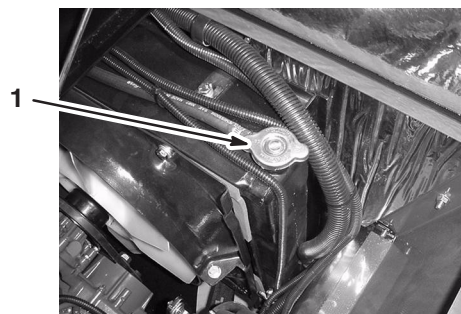
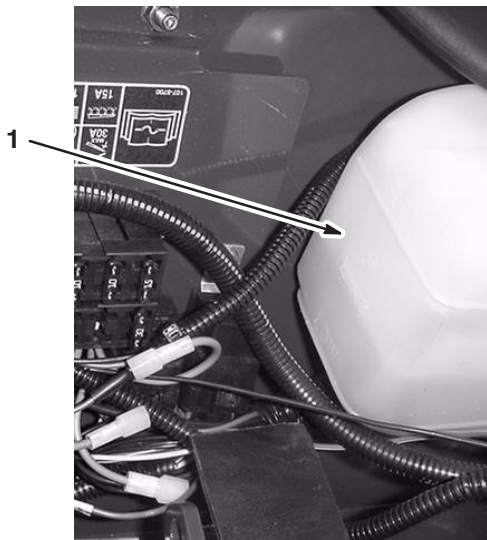

Figure 5
Figure 6
3. Carefully remove the radiator cap (Fig. 5) and the expansion tank cap (Fig. 6).